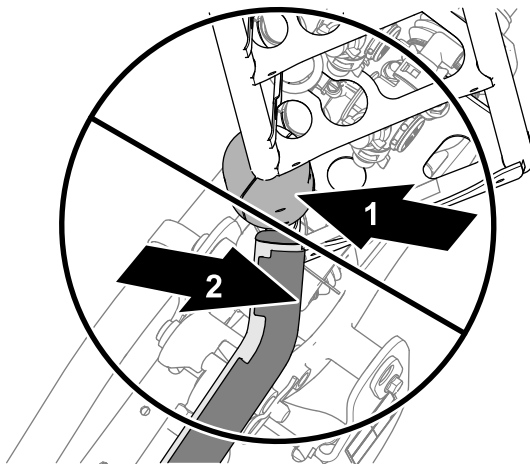
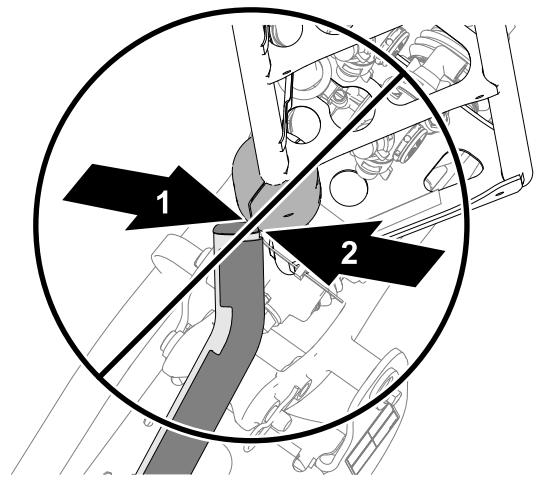
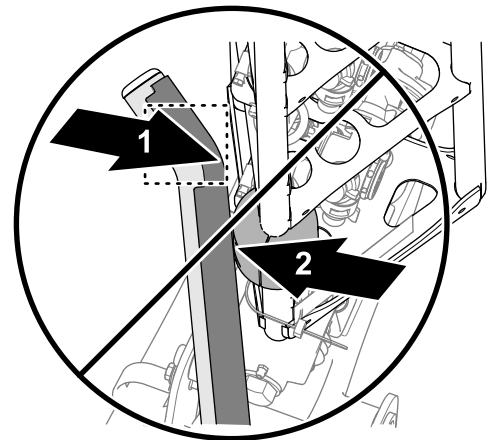

Figure 6
Figure 7
Figure 8
5. If either upper cradle tube is misaligned with the slide block as shown in Figure 6, Figure 7, or Figure 8, adjust the cradle position; refer to Aligning the Cradles to the Outer Booms \(page 80\).